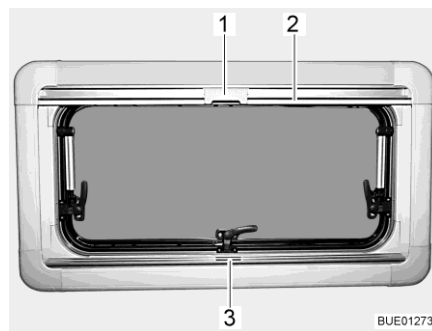
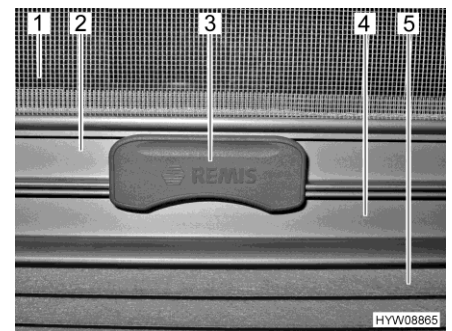

Fig. 14 Hinged window
Fig. 15 Catch
**Roman shade** The Roman shade (Fig. 15,5) is located in the lower blind box.
- Seize the Roman shade by the centre of the holding bar (Fig. 14,3 and Fig. 15,4), pull it from the bottom to the top and release it at the desired height. The Roman shade will stay at this height.
**Insect screen** The insect screen (Fig. 15,1) is located in the upper blind box.
- Pull the insect screen down by the holding bar (Fig. 14,2 and Fig. 15,2), until it touches the holding bar of the Roman shade (Fig. 15,4).
- Clip the catch (Fig. 14,1 and Fig. 15,3) on the insect screen into the holding bar of the Roman shade. When the catch is locked, the Roman shade and the insect screen can be adjusted together.
- Push the catch (Fig. 15,3) on the insect screen upward.
- Move the insect screen back slowly on the holding bar (Fig. 14,2).